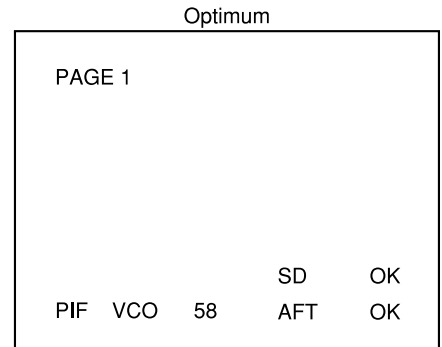

Fig. 1-5
- Use the volume keys on the jig remote controller to adjust AFT until "OK" status is indicated on the screen. (Fig. 1-5)